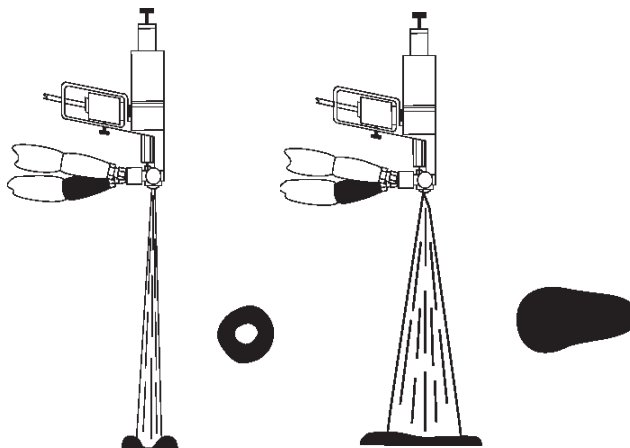

FIG. 12 Opening Spray Pattern
4. Adjust spray pattern. Note position of notch in hexhead of adjustment screw, then back screw out counterclockwise the number of turns specified in Table 1. Notice spray pattern opens as adjustment is made (FIG. 12).
- c. If pattern splits or has hollow center, even with the adjustment screw at minimum number of turns from point of valving, material temperature is too high. Refer to FIG. 12.